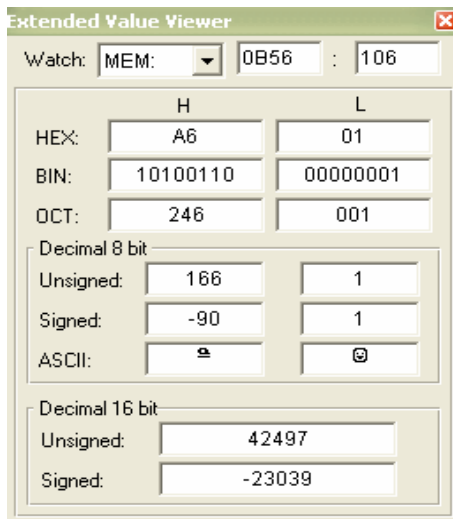
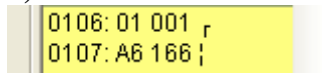

Figure 17
Figure 18
3) Change 0B56:0106 to 01 and 0B56:0107 to A6h. (Figure 17)
4) Close the window in Figure 17; the value at offset 0106 and 0107 is changed (Figure 18)